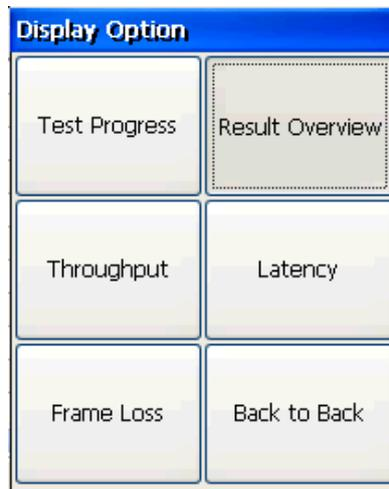

Figure 5.10.6 RFC2544--Display
**[Display]:** To show the test results and processing information, as is shown in figure 5.10.6.